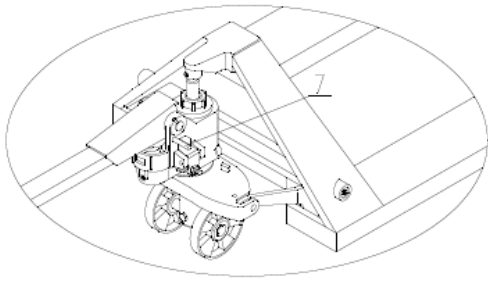

Figure 3
3.6 See fig 3, turn the hand grip to the level position, pull out pin 7 and save pin 7 with care for next use.